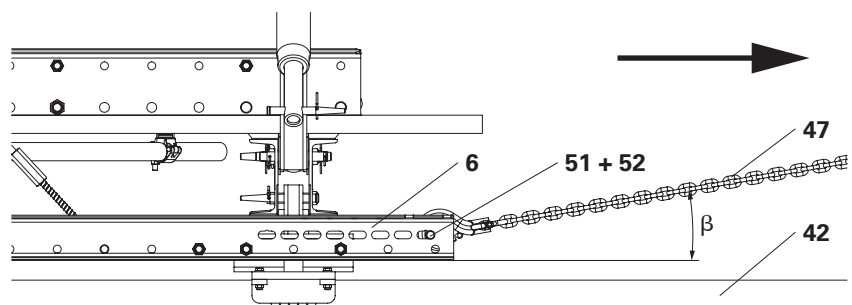

Fig. D4.01
7. Align the concreting platforms and connect them with timber straps. (Fig. D4.01)
(Fig. D4.01 + D4.02)